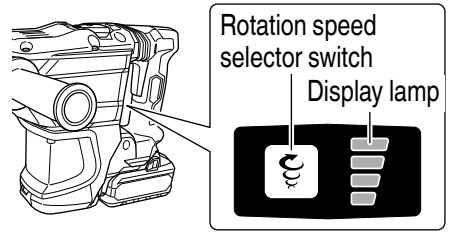

Fig. 20
5. Regulating the number of rotations and hammering (**Fig. 20**)